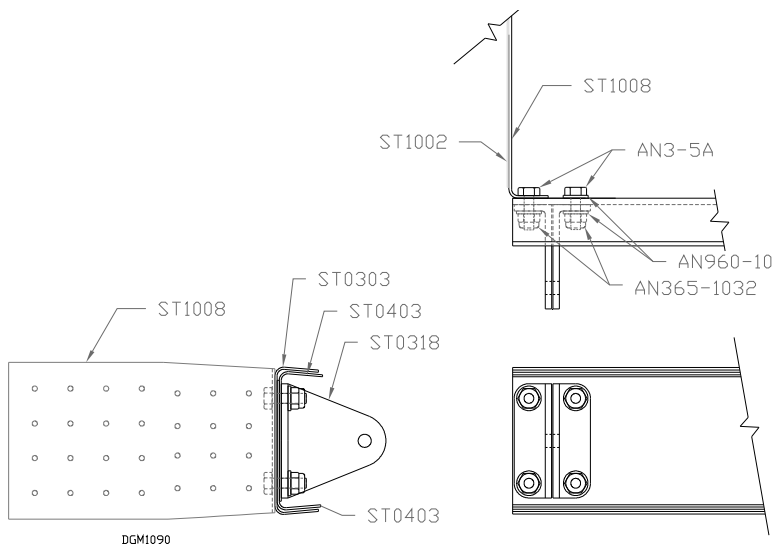

Figure 2.6.4
12. At each end of the Rear Spar, bolt the two Hinges [ST0318], the Rib Attach Bracket [ST1008] [remembering to chromate mating surfaces] using AN3-5A in the configuration shown in Figure 2.6.4.